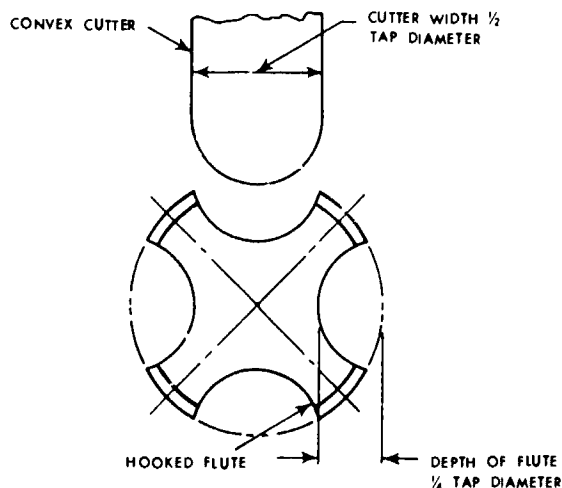

Figure 1-21 Hooked tap flutes
**Tap flutes.** You usually use a convex cutter to machine tap flutes. This type of cutter produces a "hooked" flute, as shown in figure 1-21. The number of flutes is determined by the diameter of the tap. Taps 1/4 inch to 1 3/4 inches in diameter usually have four flutes and taps 1 7/8 inches (and larger) in diameter usually have six flutes. The width of the convex cutter should be equal to one-half the tap diameter. The minimum length of the full depth of the flute should be equal to the length of the threaded portion of the tap. You usually mount the tap blank between centers and feed it longitudinally past the cutter. For appearance sake, the flutes are usually cut in the same plane as the sides of the square on the tap blank.